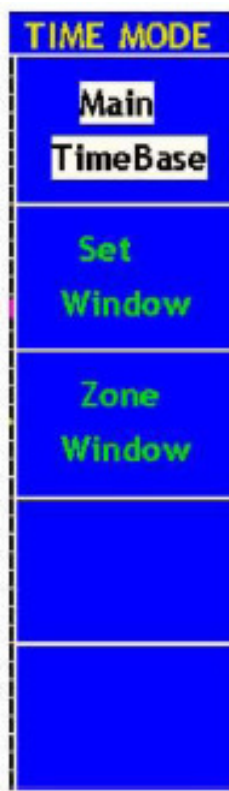

Fig. 32 Time Base Mode Menu
3. **HORIZONTAL MENU** button: with this button pushed down, the screen shows the operating menu (see Fig. 32).